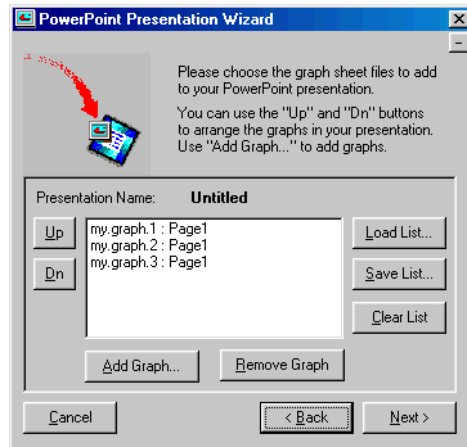

Figure 10.21: *Selecting your Graph Sheets.*
4. As shown in Figure 10.21, the first page of the wizard gives you several options. By default, the **Graph Sheets** currently open in your session are selected for the presentation. However, you can change the selections by doing any of the following: